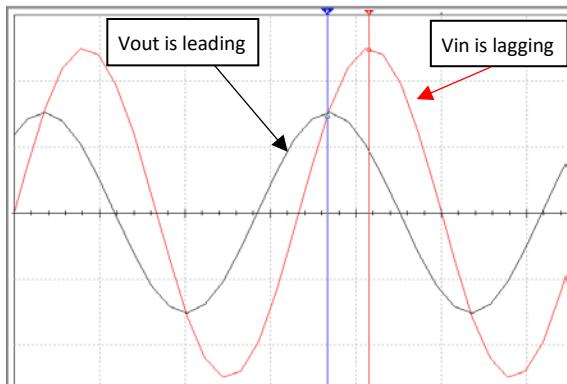

Figure 3.2: Scope plot of the circuit in Example 3.1
*Example 3.1) Verify the output ( $V_{out}$ ) for the circuit in Figure 3.1 by finding the total impedance and using Ohm's Law. Go to Figure 3.2 to see the oscilloscope plot of the waveforms*